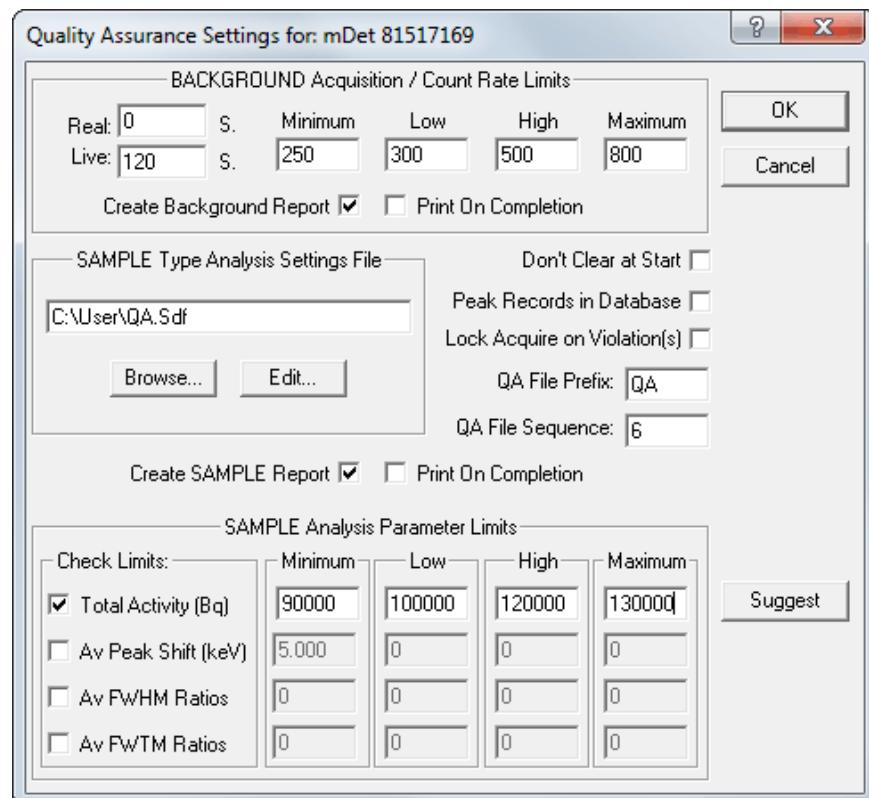
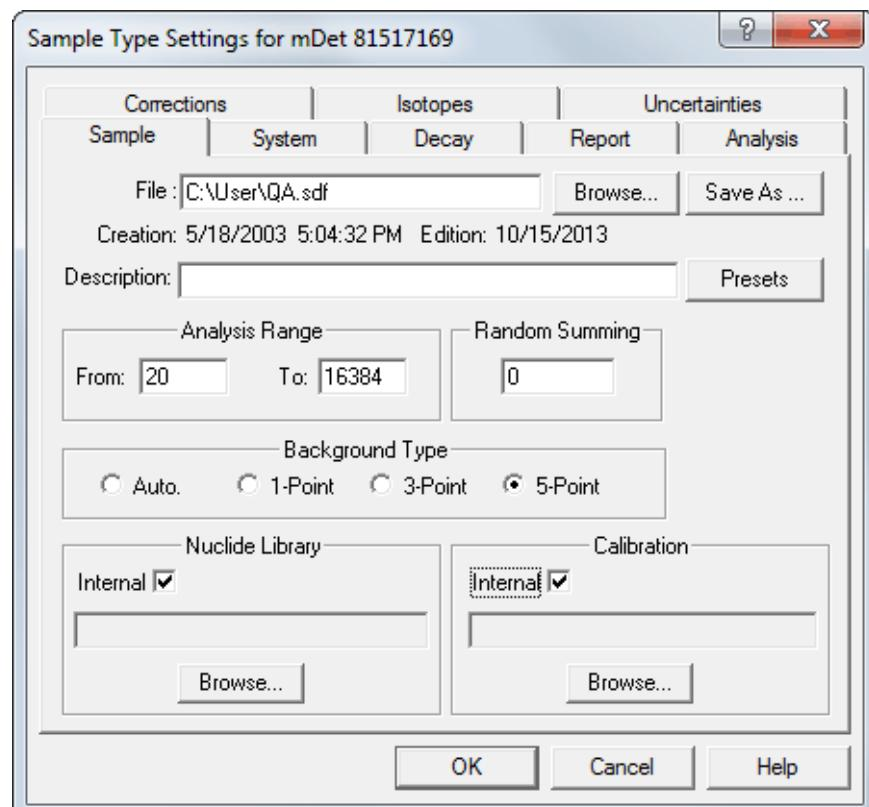

Figure 296. Example of Quality Assurance Settings.
Figure 297. Typical Settings for Quality Assurance Analysis.
- 4) Select **Acquire/QA/Settings...** to display the Quality Assurance Settings dialog for this detector (Fig. 296), then go to the **SAMPLE Type Analysis Settings File** section and click the **Edit** button. This will open the Analysis Options dialog (Fig. 297), which will allow us to create a sample defaults (.SDF) file for analyzing the QA acquisitions for this detector.
- 8) The expected value of the activity of the sample is 1.1E+5 Bq (3.0 μ Ci). Scale this up and down by 10% for **Low/High** and 20% for **Minimum/Maximum** into activity fields. These values are shown in the **SAMPLE Analysis Parameter Limits** section in Fig. 296.
- 12) The background and sample spectra will automatically be stored according to the **QA File Prefix** and **QA File Sequence** number entered in Fig. 296.